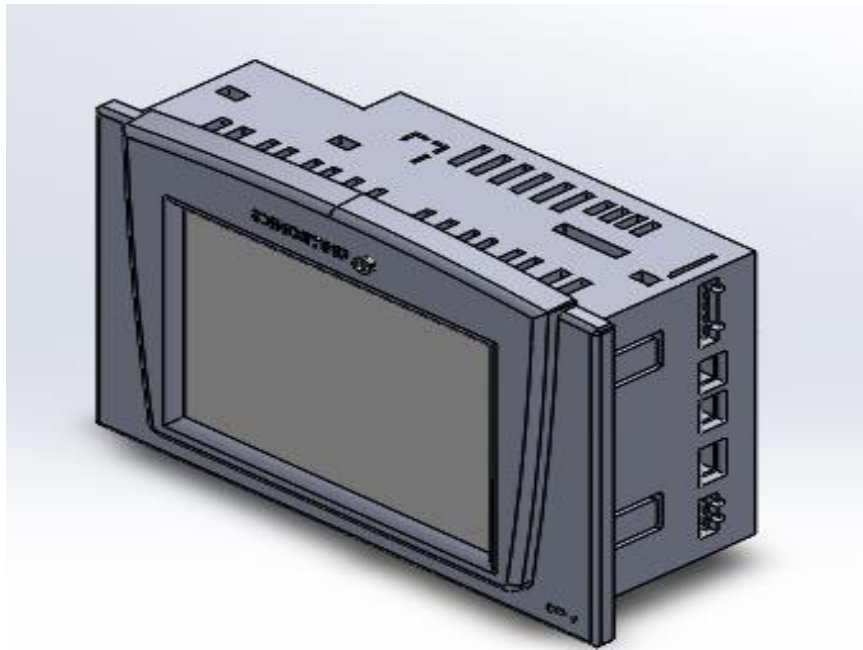

Figure 3.11:HMI Screen
- 3- HMI Screen: This part is responsible for calibrate the machine, input the commands, and monitor the machine status. (**Figure 3.11**)